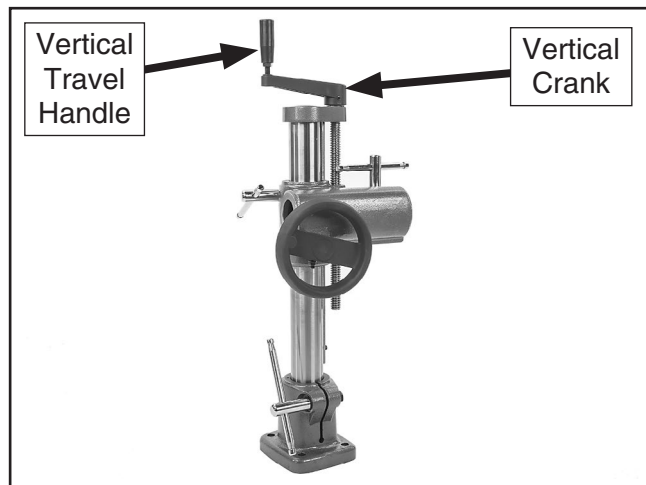

Figure 8. Vertical travel handle installed.
1. Place vertical column assembly onto machine table top, then attach vertical travel handle to vertical crank shown in **Figure 8**.